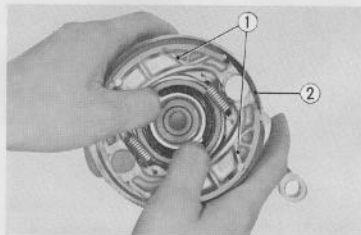

Fig. 4.59 Removing front brake shoes
- ① Speedometer cable
② Brake cable
③ Front axle
④ Castle nut
⑤ Panel stopper bolt
⑥ 8 mm-hex bolt
- (5) The front brake shoes ① shall be removed from the panel ② by spreading the shoes against the brake shoes spring pressure and pulling out. (Fig. 4.59)